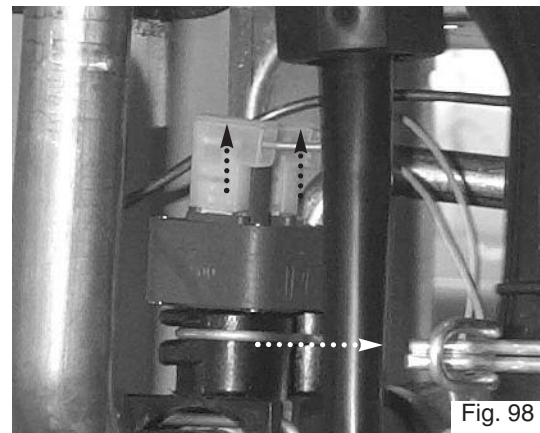

Fig. 98
2. Pull off the connections and remove the pressure switch by releasing its securing clip (see *Fig. 98*).